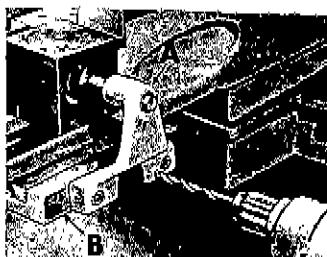

Figure 9
13. Make sure spline screw is properly aligned. Slide taper bar (A) to extreme left and extreme right. IF SCREW BINDS IN EITHER POSITION, RE-ADJUST SUPPORT BRACKET (B). Tighten taper screw bearing support (C).
14. Remove the taper bar and slide. Drill two 1/4" holes 1-1/4" deep in support bracket (B, fig. 9), and in bearing support (A). Install pins (furnished) flush with surface.